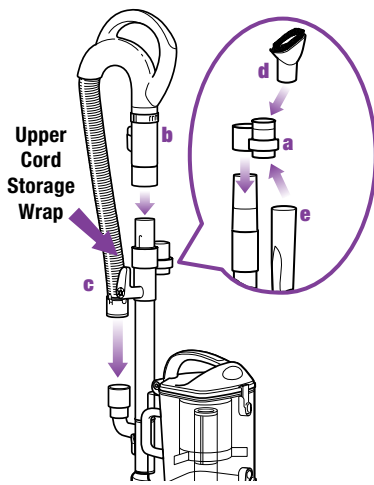

Fig. 10
- 4 Slide the accessory holder **(a)** positioned opposite the upper cord wrap, over the extension wand. Align the tab with the groove and push down. **(Fig. 10)**
- 5 Push the handle **(b)** onto the top of the extension wand until you hear it click into place. **(Fig. 10)**
- 7 Store the dusting brush **(d)** and the crevice tool **(e)** on the mounts of the accessory holder. **(Fig. 10)**
- 2 Secure the power cord in the cord hook (a). (Fig. 10)